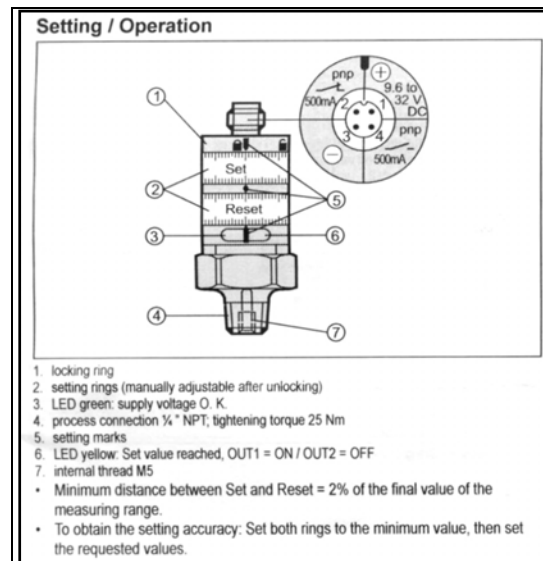

Fig. 2.11
2.18. Soda Pressure Switch Adjustment. The switch is adjusted at the factory to “close” at the standard flow and to “open” if the pressure drops. (See Fig. 2.11 below)